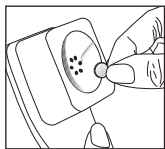

Figure 1
2. Hold the magnet near the “listening end” of your telephone receiver and release it (figure 1). The magnet will flip to the appropriate side and seek the optimal position on the telephone receiver.